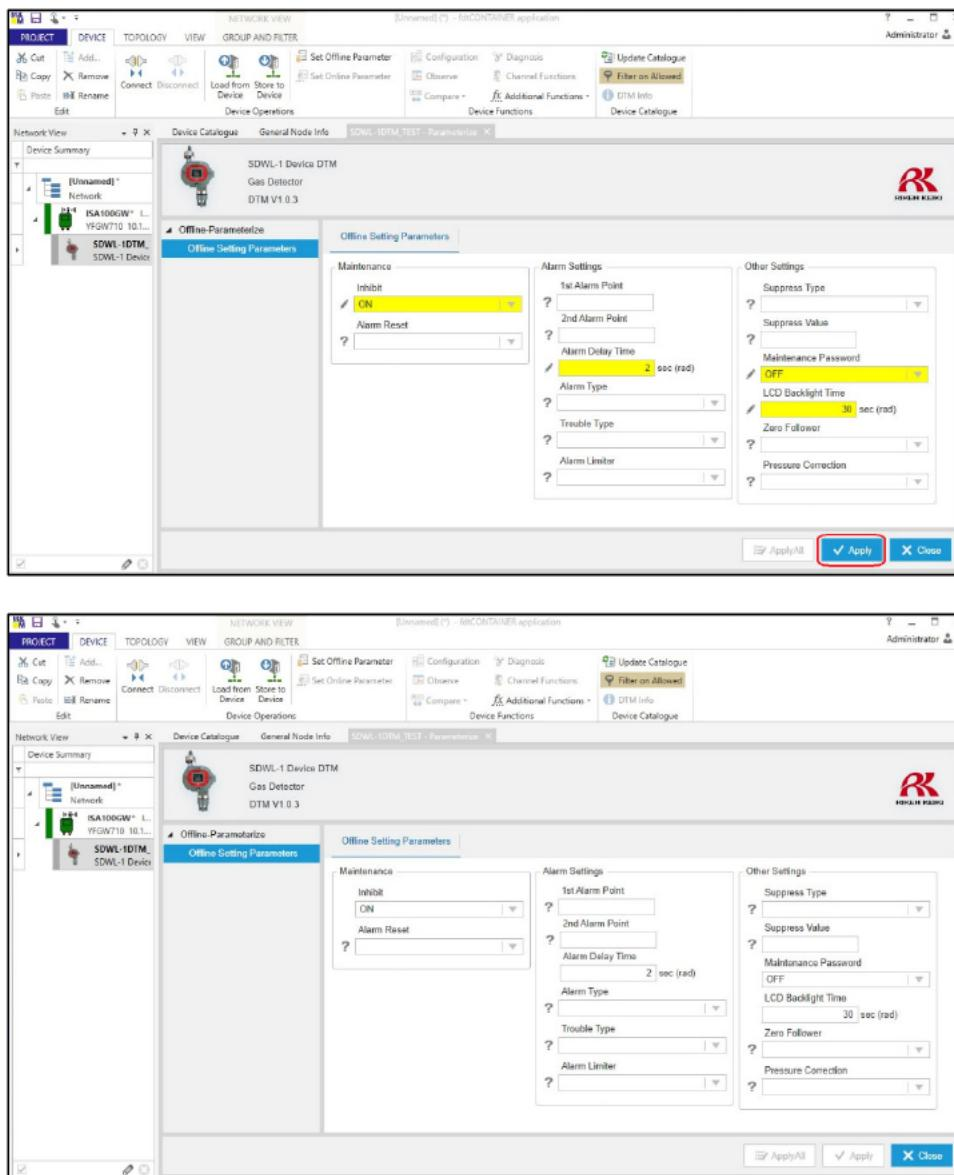

Figure 6-12 Offline parameter value editing
- ① Edit the parameter values within the “Offline Setting Parameters” tree menu, then click “Apply”. (Figure 6-12)